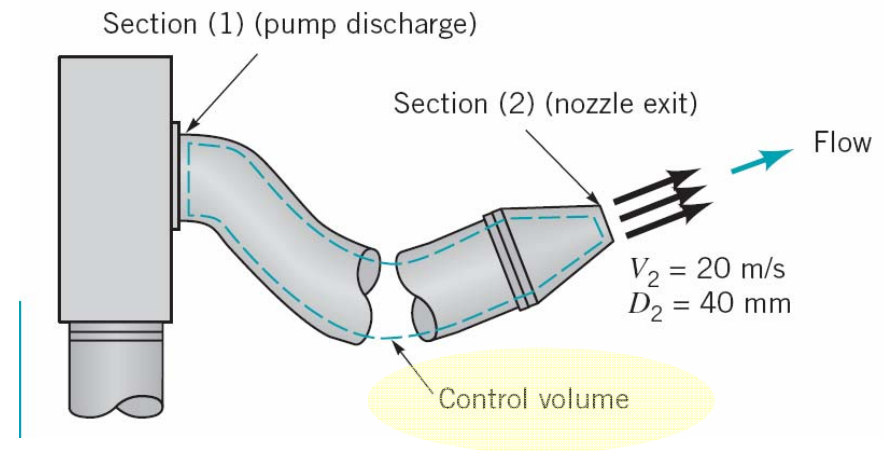

Figure E5.1
- Seawater flows steadily through a simple conical-shaped nozzle at the end of a fire hose as illustrated in Figure E5.1. If the nozzle exit velocity must be at least 20 m/s, determine the minimum pumping capacity required in m^3/s .